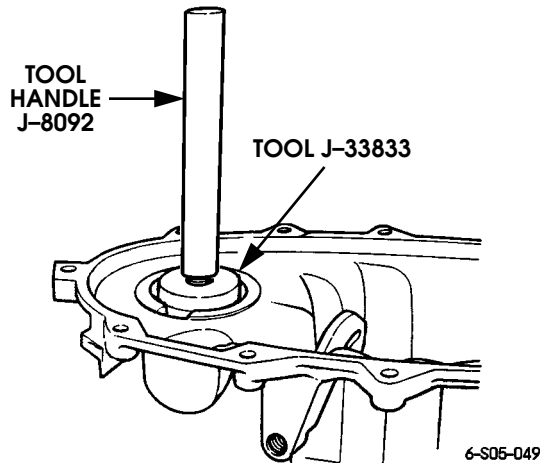

Figure 5-121: Front Output Shaft Front Bearing Installation
3. Install new bearing with tool handle J-8092 and installer tool J33833 (Figure 5-121).